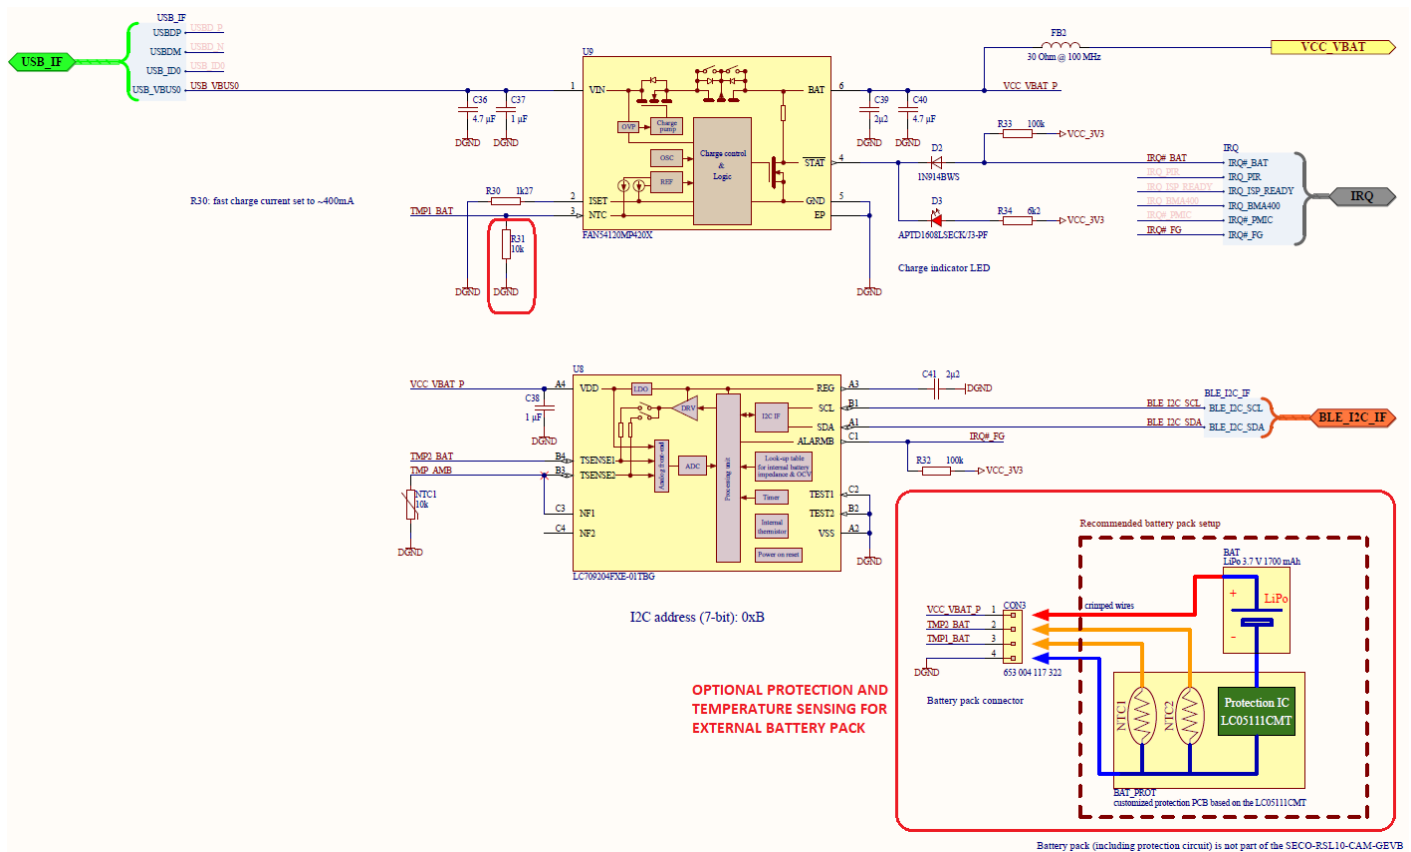

Fig.9 R31=10k to be removed once external Li battery and it's protection circuit connected
1. Remove R31: the 10k resistor emulates the external NTC sensor. As the board isn't delivered with battery, this dummy resistive load must be connected towards FAN54120 (Fig.9).